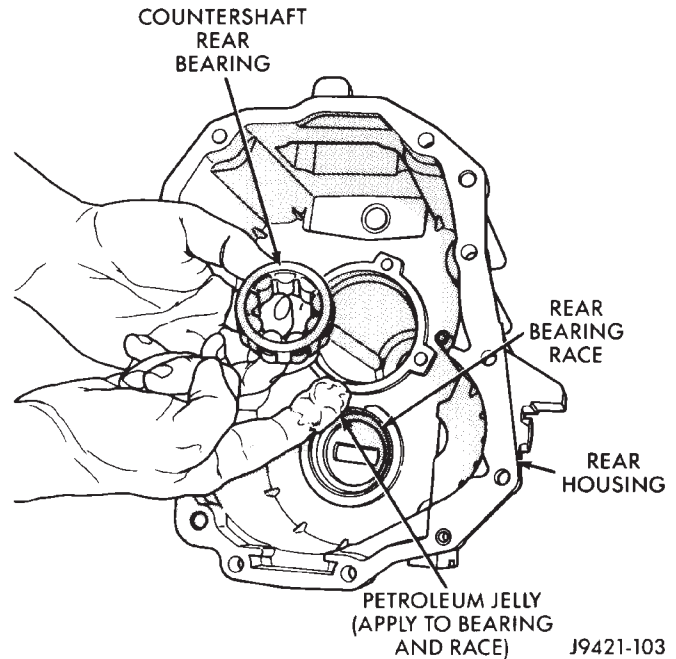

Fig. 95 Lubricating Countershaft Rear Bearing
(2) Apply liberal quantity of petroleum jelly to countershaft rear bearing and bearing race.
(3) Install countershaft rear bearing in bearing race (Fig. 95).